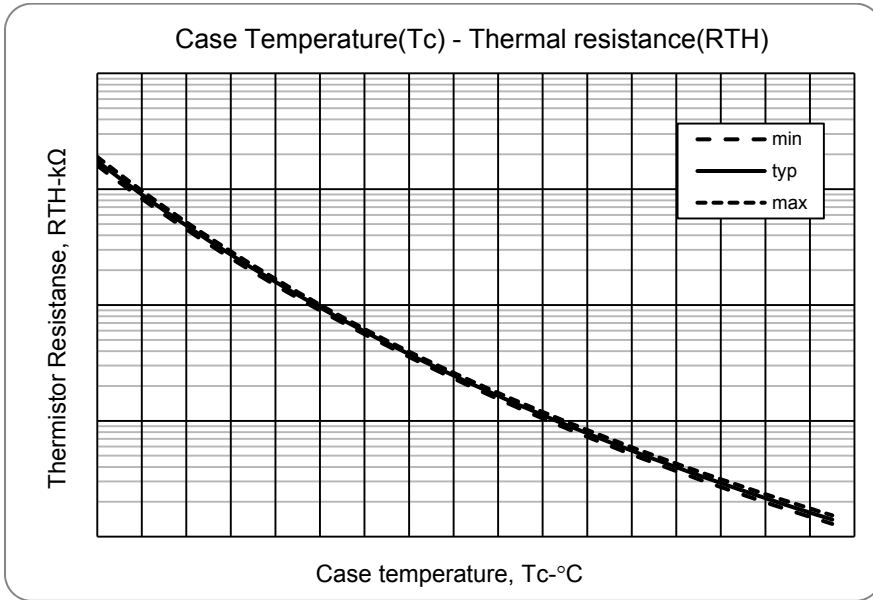
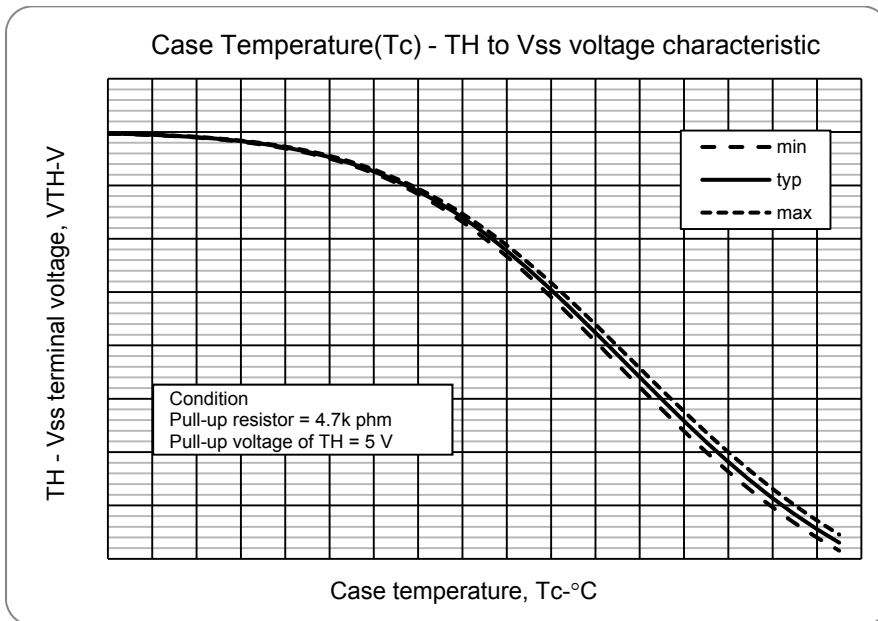

Fig.9 Variation of thermistor resistance with temperature
Fig.10 Variation of temperature sense voltage with thermistor temperature
- Inside the IPM, a thermistor used as the temperature monitor for internal substrate is connected between V_{SS} terminal and TH terminal, therefore, an external pull up resistor connected between the TH terminal and an external power supply should be used. The temperature monitor example application is as follows, please refer the Fig.9, and Fig.10 below.